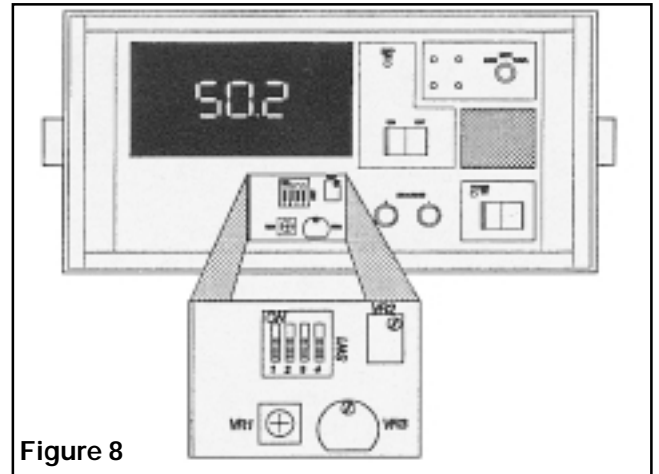

Figure 8
1. Slide Adjustment Window to the left to open (See Fig. 8).
5. Rotate VR1 to MIN (Fully Counterclockwise) (See Fig. 8).
7. Rotate VR1 to MAX (Fully Clockwise) (See Fig. 8).